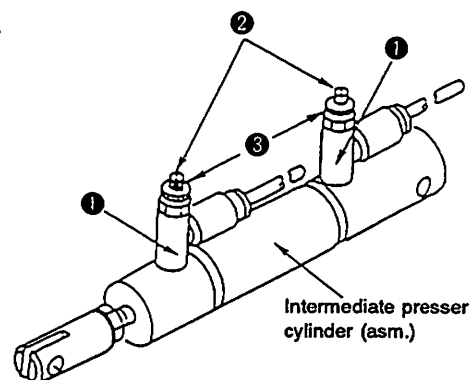

Fig. 4-3-4
- 5) The needle knob of the speed controller (intermediate presser cylinder asm.) is fixed using a nut with loosened by 5 turns after it has been fully tightened. (Fig. 4-3-4)